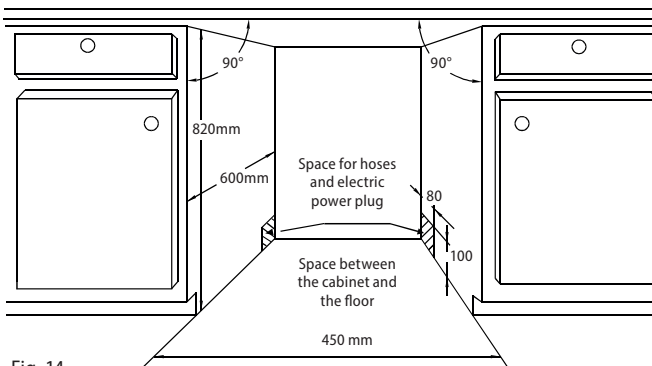

Fig. 14
- Dimensions for mounting the appliance are shown in Fig. 14.